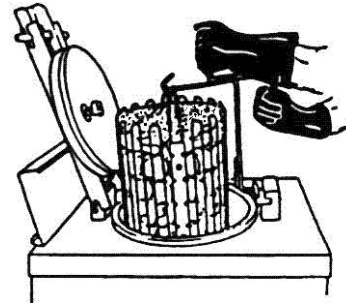

FIGURE 11
DANGER: When DONE signal appears, use safety gloves and basket drain hook to lift basket out of cooking oil and drain (FIG 11). Press channel key (2 HD, 4HD, etc.) to cancel buzzer.